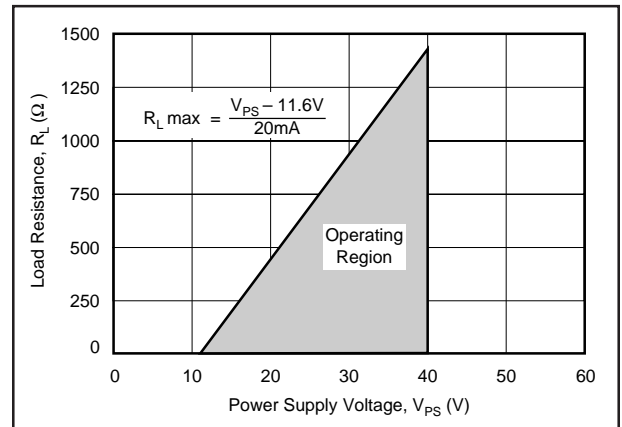

FIGURE 4. Power Supply Operating Range.
- Always choose  $R_L$  (including line resistance) so that the voltage between pins 7 and 8 ( $+V_{CC}$ ) remains within the 11.6V to 40V range as the output changes between the 4-20mA range (see Figure 4).